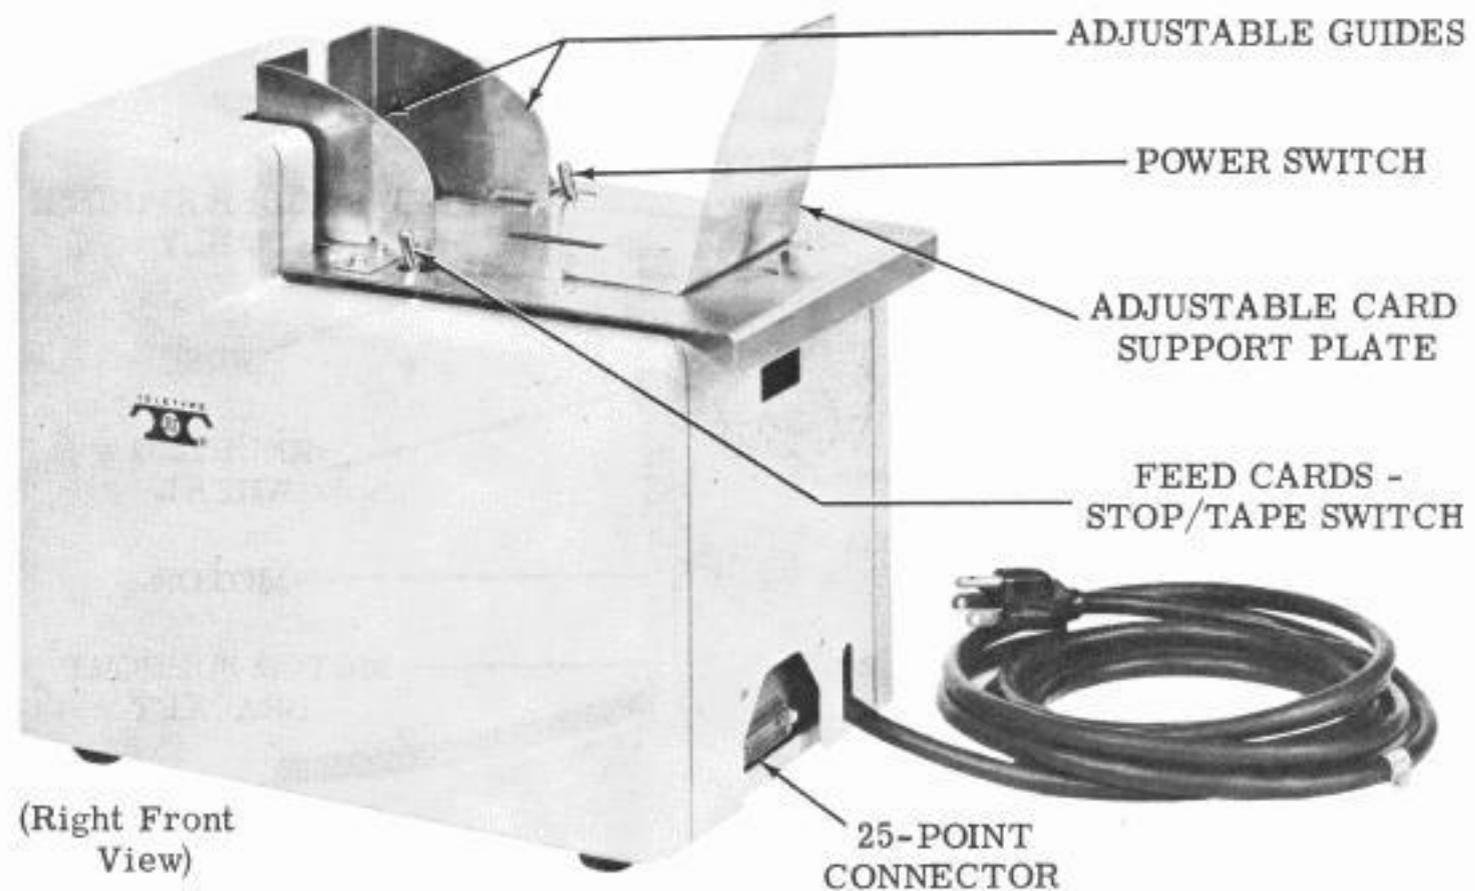
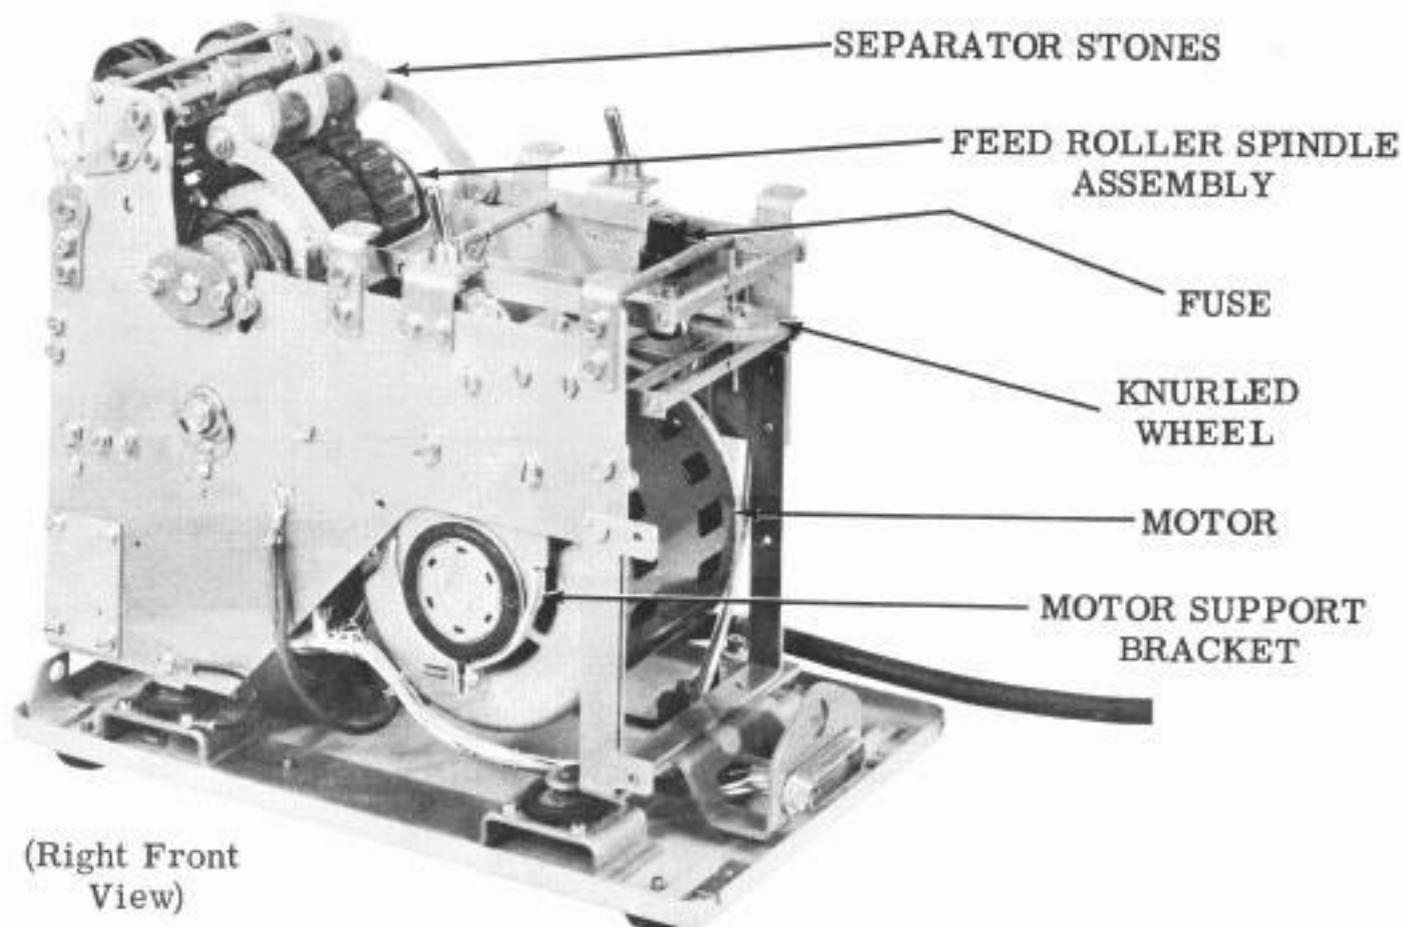

Figure 2 - 35 Edge Punched Card Feeder
Figure 3 - 35 Edge Punched Card Feeder (Without Cover and Top Plate)
2.02 The adjustable side guides, mounted on the top plate, locate the cards with respect to the separator stones in the feed mechanism. An adjustable card support plate is positioned to place the cards into the proper angular attitude with the separator stones (Figure 2).
2.05 A 25-point connector J-1 is mounted on the right side of the feeder and is accessible through an opening in the cover. Power is supplied to the feeder motor and control circuits through a separate line cord (Figure 2).
2.06 The two manual controls provided for the use of the operator are the POWER ON switch and the FEED CARDS - STOP/TAPE switch (Figure 2).
3.02 A 25 millihorsepower motor furnishes the driving force for the feeder. This motor is a nonsynchronous type with a speed of 1725/1425 revolutions per minute. Brackets supporting the motor are attached to the side frames of the unit (Figure 3).
3.05 An adjustable plate attached to the top plate is the adjustable card support plate (Figure 2). The trailing edge of the card stack contacts this plate. Thus, the cards are kept in contact with the separator stones and the rubber tire on the feed roller spindle assembly (Figure 3).
3.06 The separator stones (Figure 3) are shaped with flats which effect a separation between the card on the bottom and the rest of the stack. These stones are set at an angle of 10 degrees, relative to the top plate, to assure the most efficient separation.
3.07 The height of the stones, above the top plate is controlled by the rotation of a knurled wheel (Figure 3) accessible through the cover at the right of the unit. Revolving this wheel causes a frame, which mounts the separator stones, to move at right angles to the top plate. This perpendicular travel preserves the 10 degree angle of the separator stones.
3.15 The manual controls consist of POWER ON switch and FEED CARDS - STOP/TAPE switch (Figure 2).